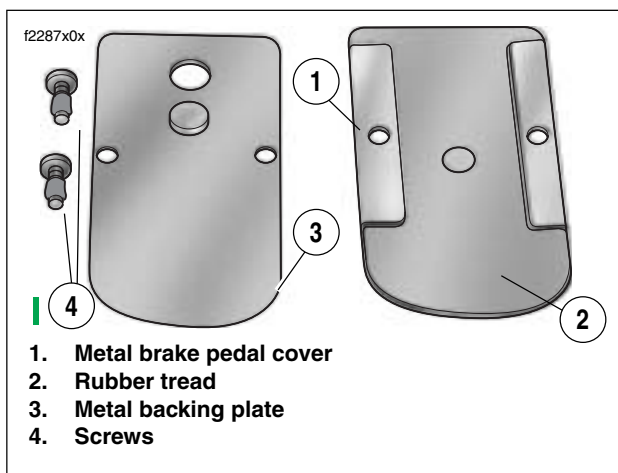

Figure 2-7. Rear Brake Pedal
2. See Figure 2-7. Assemble metal brake pedal cover to rubber tread.